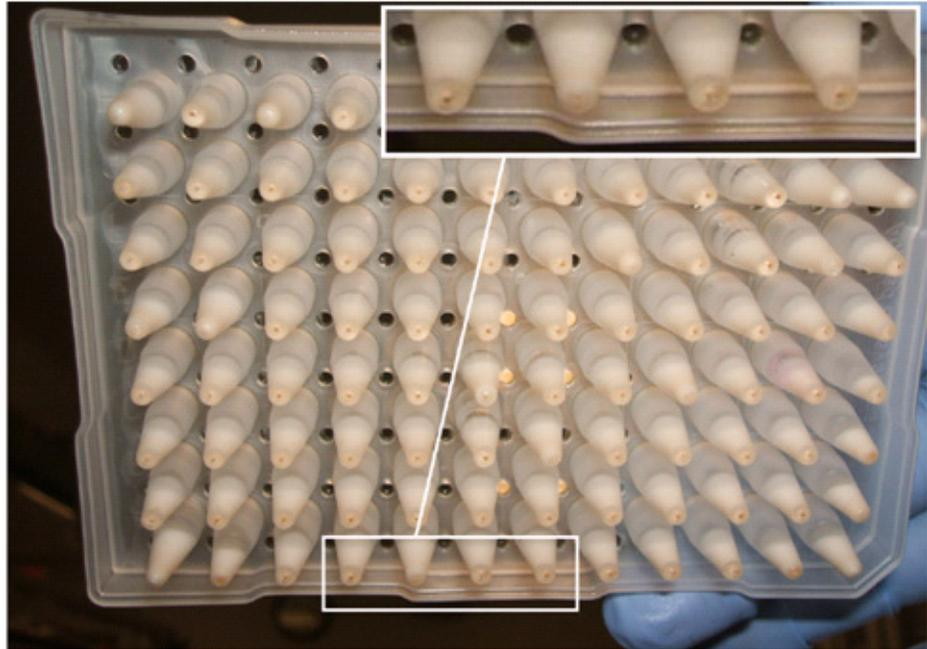

Figure 16 Broken emulsions.
3. After the ePCR Program finishes, inspect the bottom of the reaction plate for beads that fell out of the emulsion. Beads appear as amber-colored specks at the bottom of a well. A small number of beads may fall out of emulsion and appear as small brown flecks at the bottom of a well. Applied Biosystems does not recommend any further processing of emulsions that have more than 3 wells of broken emulsion, where aqueous phase appears at the bottom of a well (see Figure 16 on page 22).